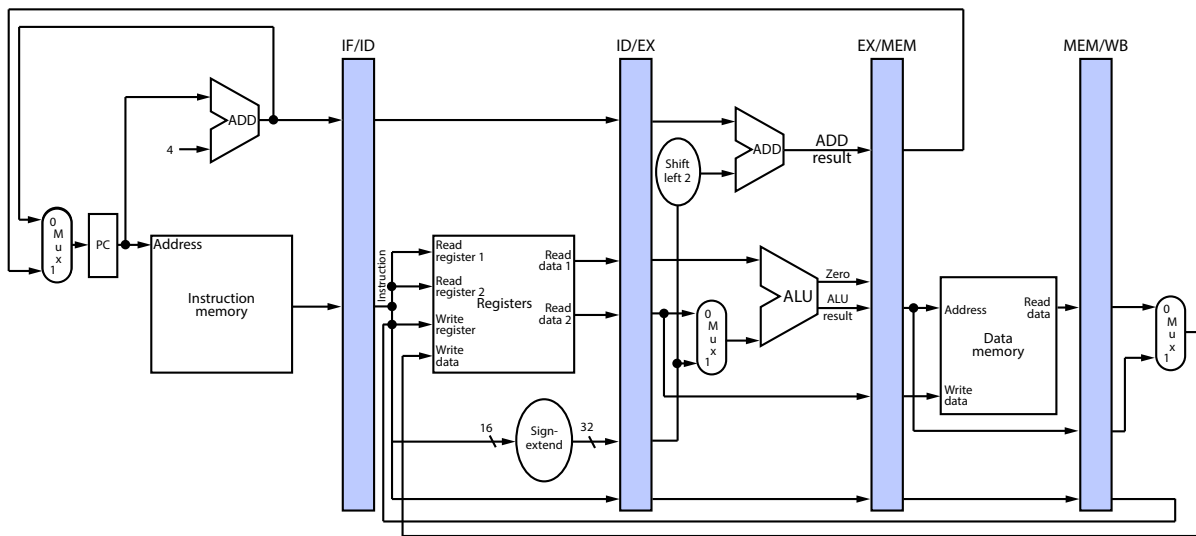

Figure 1: 5-stage pipelined microprocessor architecture
For now, we have focussed on the logic and logic optimisations in the microprocessor, originally introduced in Session 1 (see figure 1). However, a microcontroller also requires memory elements: (1) flipflops, to create a synchronous digital chip and (2) a memory.
Remember the adder that was used in the proposed microprocessor from figure 1. As you can see, the inputs and outputs of the adder are connected to flipflops.